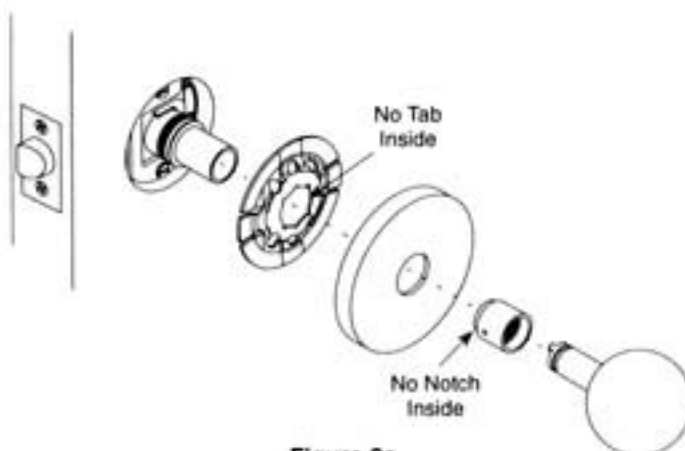

Figure 2a
4. Outside knob removal differs among models (see Figure 2a and 2b) and functions.